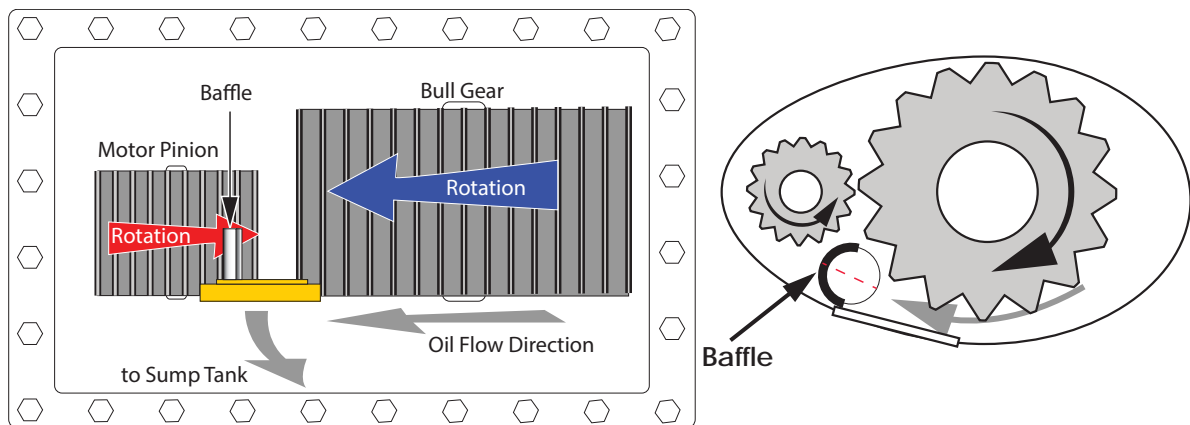

Figure 3: Arrangement Illustration
9. Ensure the baffle is oriented correctly. Inspect the baffle position through the view window. The convex side of the baffle should be pointing towards the motor pinion as shown in Figure 3.